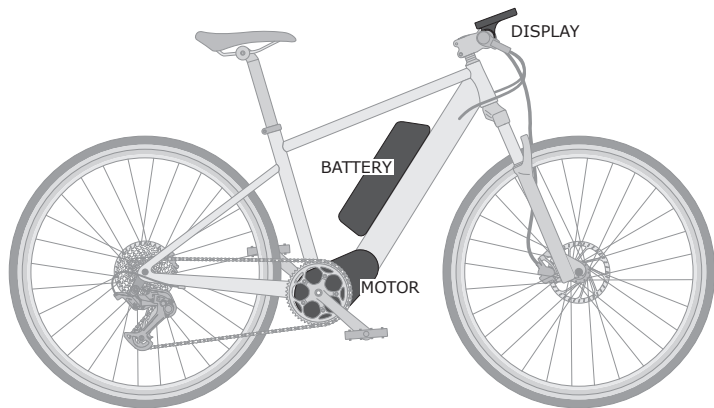
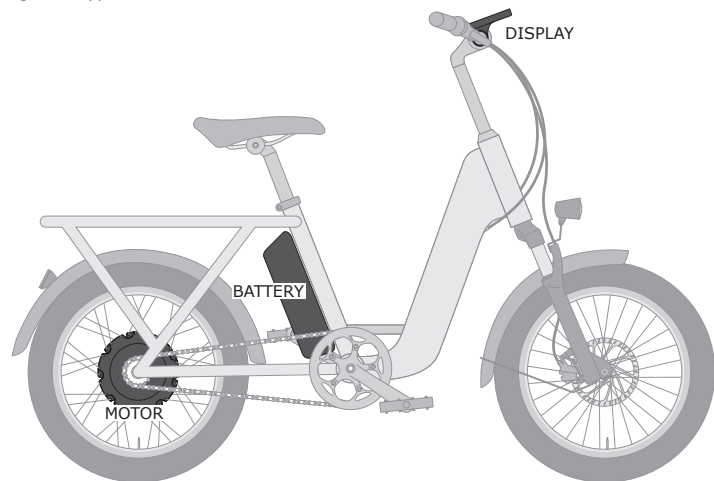

fig. 1 — Typical mid-drive e-bike
fig. 2 — Typical hub drive e-bike
**⚠ WARNING: A child should never ride an e-bike that is too big for them. While some e-bikes have step-through frames [see fig. 2] that may allow a child to mount an e-bike, that does not mean the e-bike is the right size for them to operate safely. An e-bike that is too big for a child may lead to a loss of control and fall, resulting in serious personal injury or death.**
- **Class 1:** Bicycle equipped with a motor that provides assistance only when the rider is pedaling, and that ceases to provide assistance when the electric bicycle reaches 20 mph [fig. 1].
**NOTE:** This Manual is only for e-bikes that are manufactured as complete e-bikes and designed to apply power through the rear wheel, with either a “mid-drive” motor [fig. 1] or motor contained in the rear hub [fig. 2]. This Manual does not cover other types of e-bikes, including front-wheel drive, conversion kits, or “add-on” electric motors of any kind.